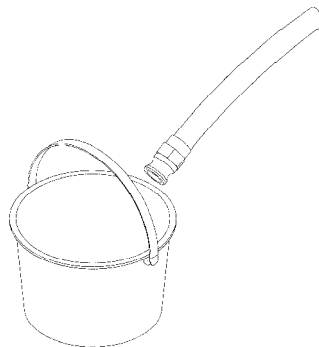

Figure 3. Cleaning Hose Connections.
4. Place ends of hose in the bucket from the Bill box filled with source water. Rinse all connections before assembly. Wipe with cloth. See Figure 3.